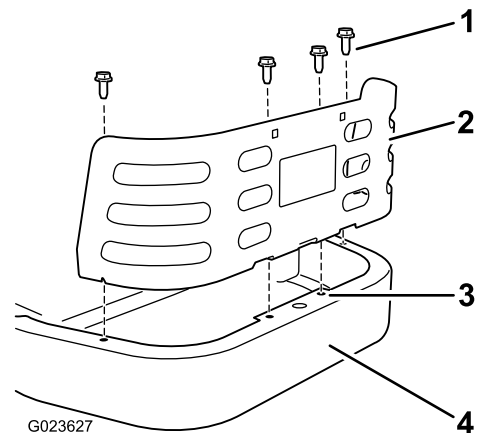

Figure 10
3. Install the engine guard to the frame behind the engine (Figure 10). Align the holes in the tabs on the guard with the existing holes in the rear frame.
4. Secure the guard to the frame with four self tapping screws (5/16 x 3/4 inch) as shown in Figure 10.